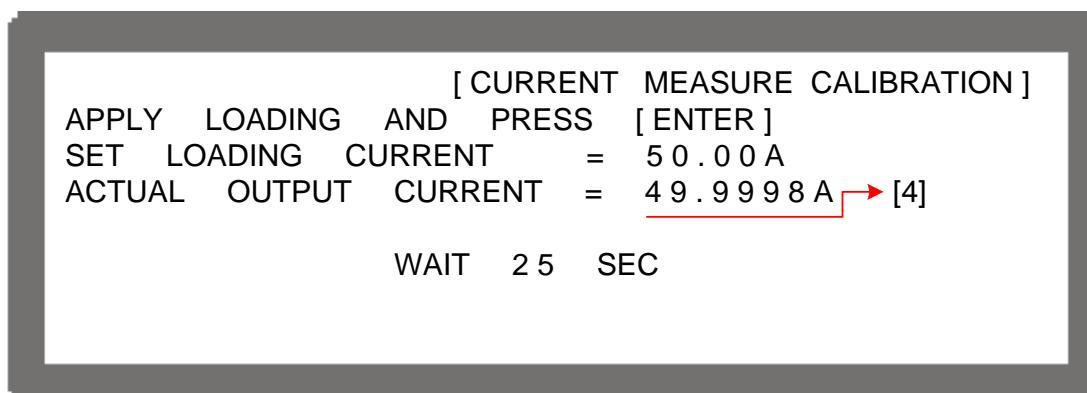

Figure 3-108
11. Press “” to perform 50A calibration. The cursor will stop at position [4] as Figure 3-108 shows for setting the loading current of Electronic LOAD to 50.00A. Enter the current (4 digits after decimal point) read by Current Shunt (DVM) and press “” to confirm and wait for it to end. Use 20A and 50A for calibration, the system will calculate the calibration factor for the high current range.